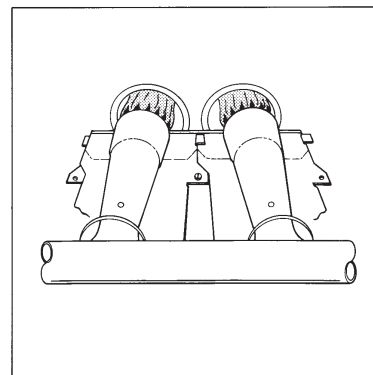

Fig. 37 - Burner Flame Adjustment
6. Start your furnace and observe its operation. Watch the burner flames to see if they are clear blue, almost transparent. See Fig. 37. If you observe a suspected malfunction, or the burner flames are not clear blue, call your dealer.